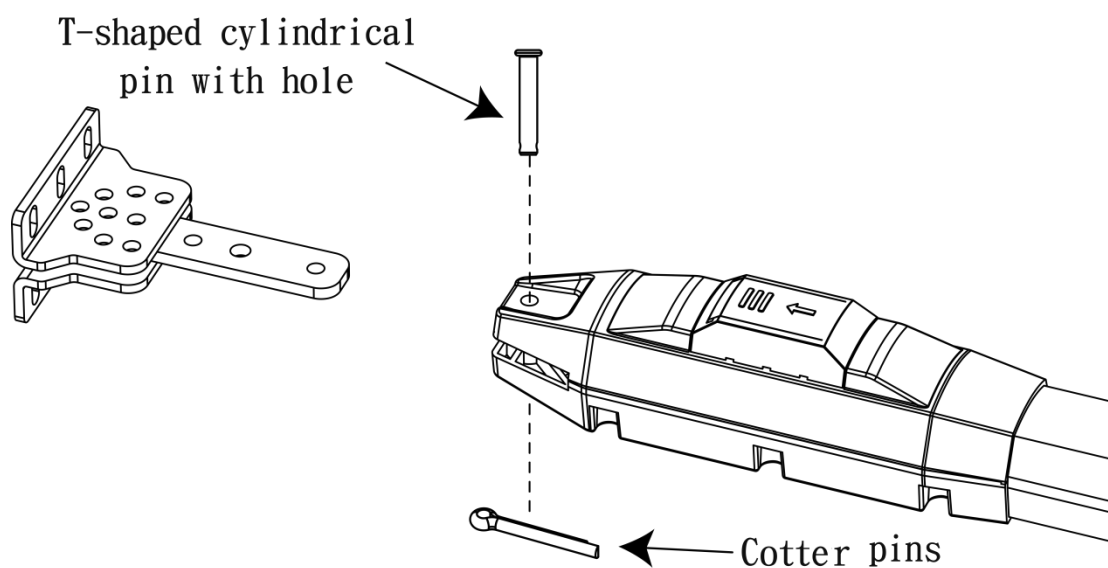

Figure 8
D) Connect the main machine with connecting brackets by screw and nut as shown in Figure 8.